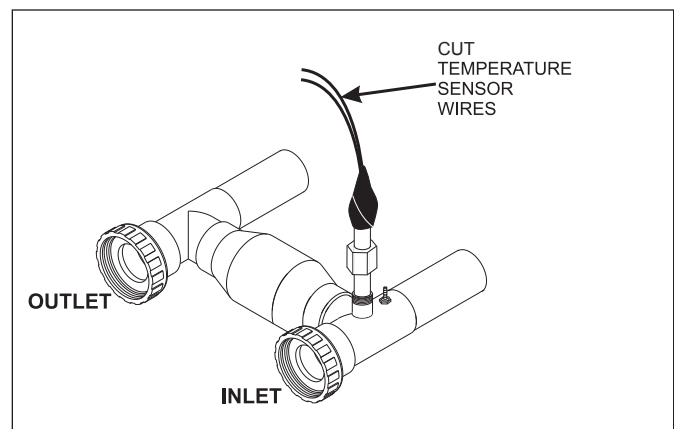

Figure 3. Location of Water Sensor (Older Models)
3. Cut the water sensor wires just past the cork tape. See Figure 3.